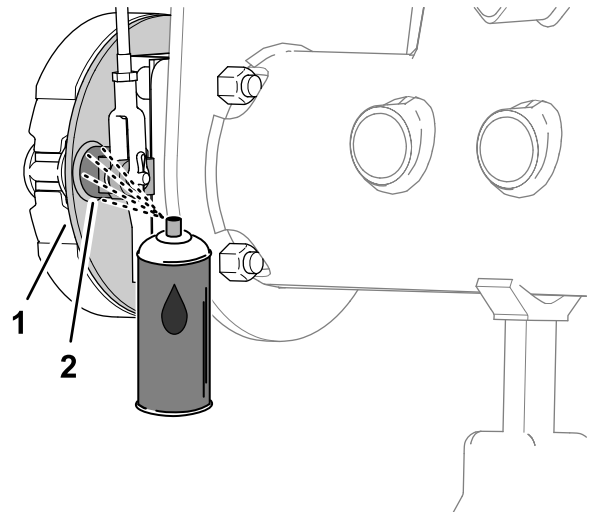
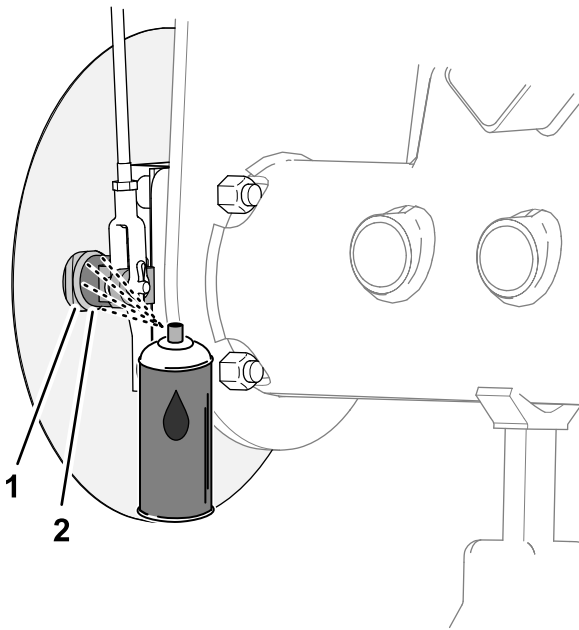

Figure 67
Figure 68
1. At the inboard side of the brake-backing plate (machines without the optional wheel-rim grass shield) or the wheel shield (machines with the optional wheel-rim grass shield), spray penetrating oil between the brake cam shaft and the backing plate (Figure 67 or Figure 68).